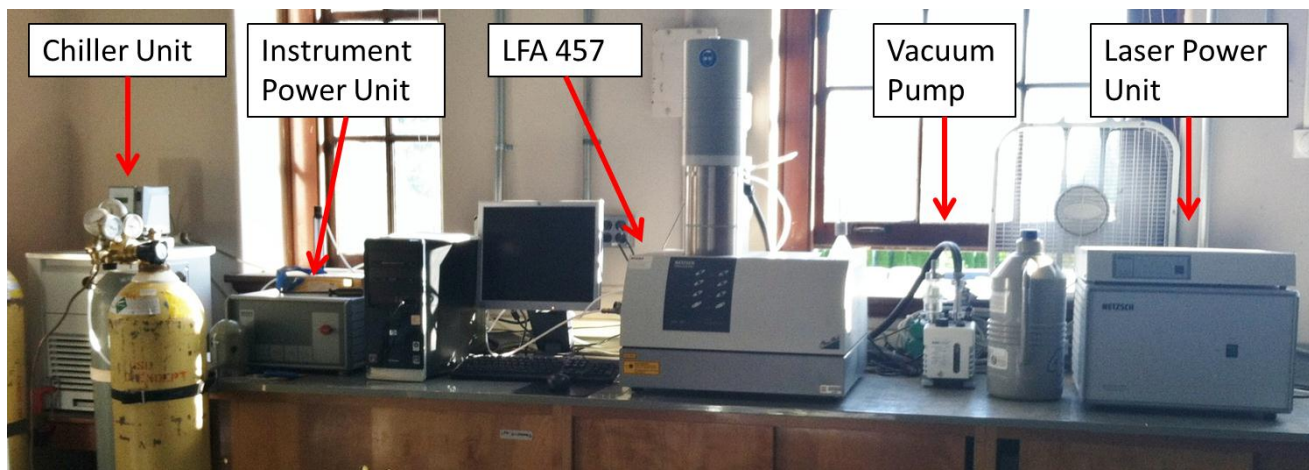

Figure 2. Layout of the NETZCH LFA 457 in the Subramanian Research Group, Gilbert Hall 214, Department of Chemistry, Oregon State University
- Turning on the instrument (See Figure 2):
- Turn on the vacuum pump for the system (see Figure 2).